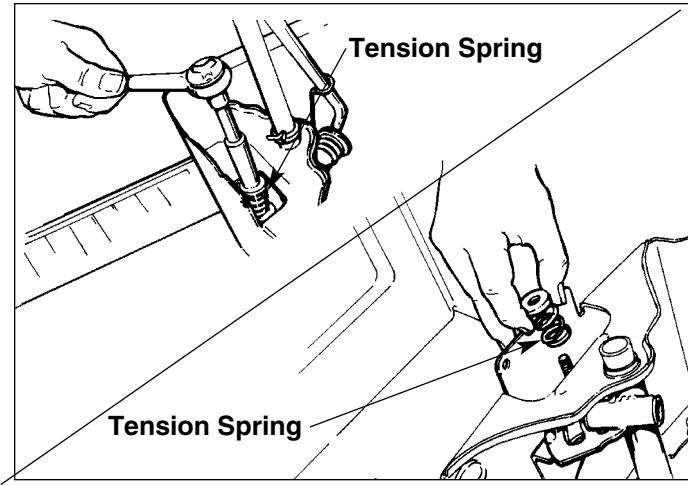

Figure B-9. Adjust Spring Tension
1. Using a 1/2 deep socket with a 4" - 6" extension bar, remove the tension adjustment locknut and compression spring (Figure B-9). Inspect spring and surrounding parts for signs of wear or breakage, and replace as needed.